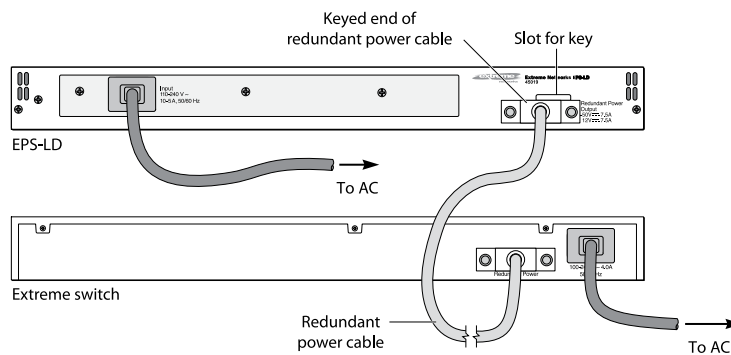

Figure 328: Connecting an EPS-LD Unit to a Switch
1. Connect the keyed end of the cord to the power supply unit (see Figure 328 on page 389).